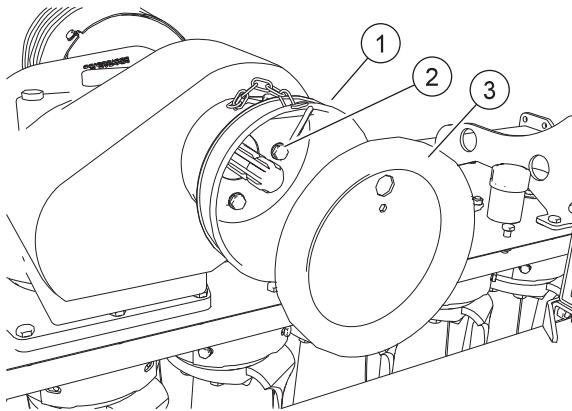

FIG. 13
- Put the guard into place (1, "Fig. 13"). Loosen the screws (2). Fit the cap (3).